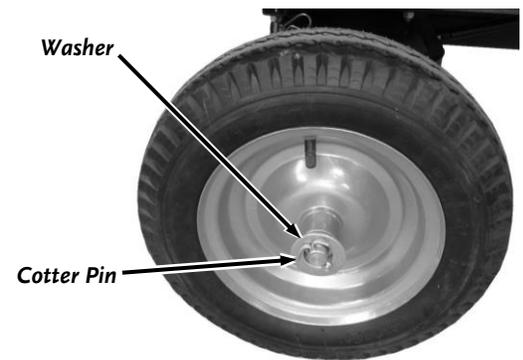

Figure 102
2. Remove the Cotter Pin with Locking Pliers or Needle Nose Pliers (**Figure 102**).